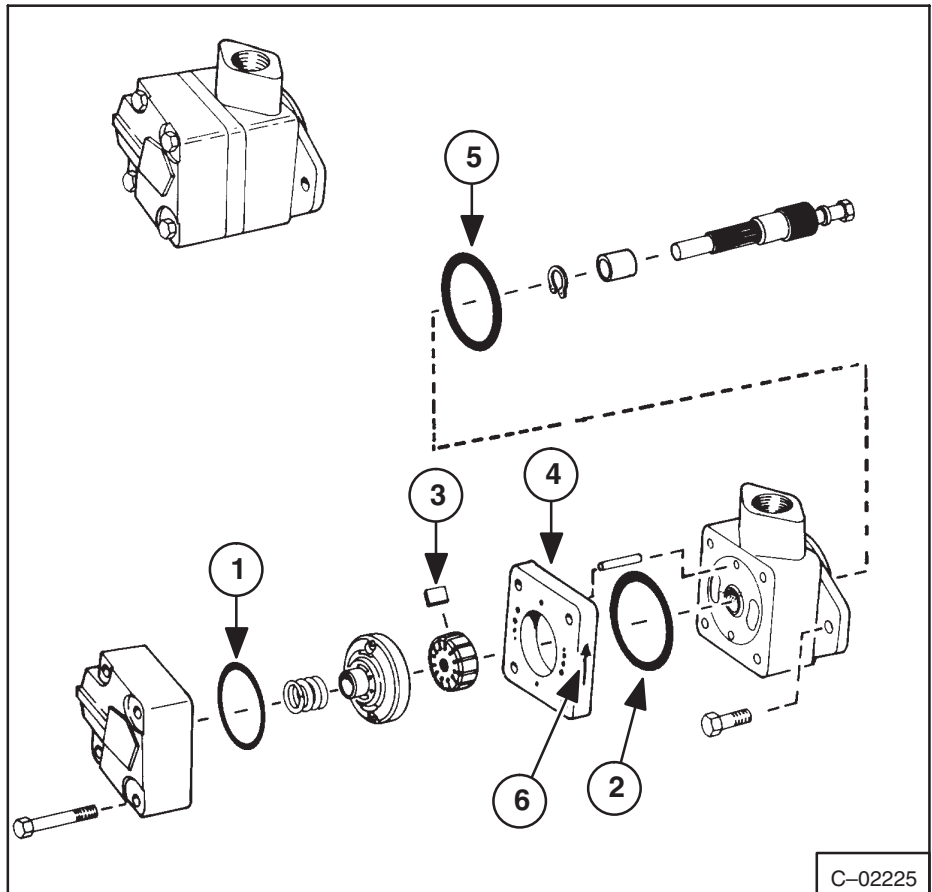

**Fig. 2-34** Removing Hydraulic Pump
11. Remove the hydraulic pump (Fig. 2-34).